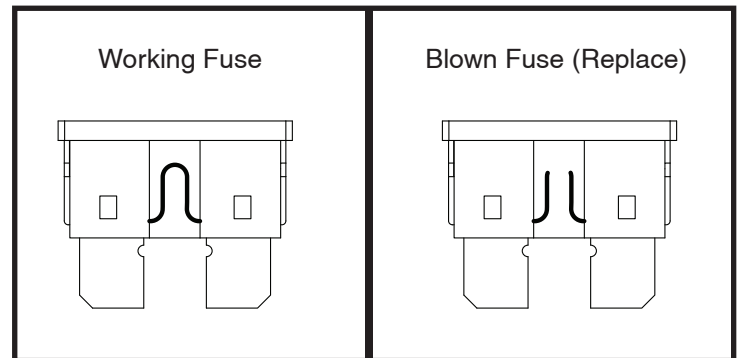

Figure 21. Fuse Replacement
2. Examine the fuse to be sure it is blown. See **figure 21**.